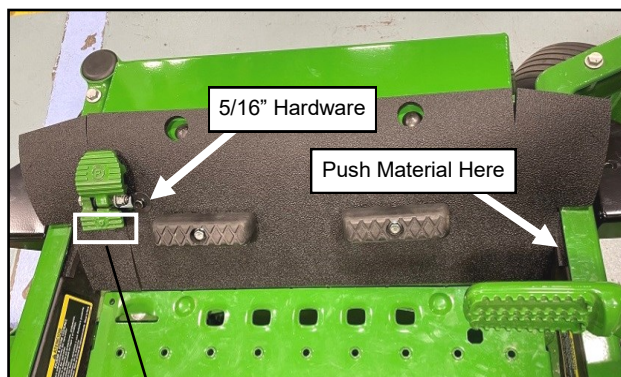

Fig. 1.16a (Install Footrest Lip Floormat)
1.16 Place the footrest lip floormat on the vehicle. Place floormat material found on the lower right and left into the sides of the vehicle frame. Install 5/16" hardware into square hole to the right of the pedal. Next, install 3/8" hardware below the pedal making sure 3/8" washers are wedged between the vehicle and clipped washer. Re-install the vehicle footrests. Now fully tighten hardware. See Figures 1.16a and 1.16b.